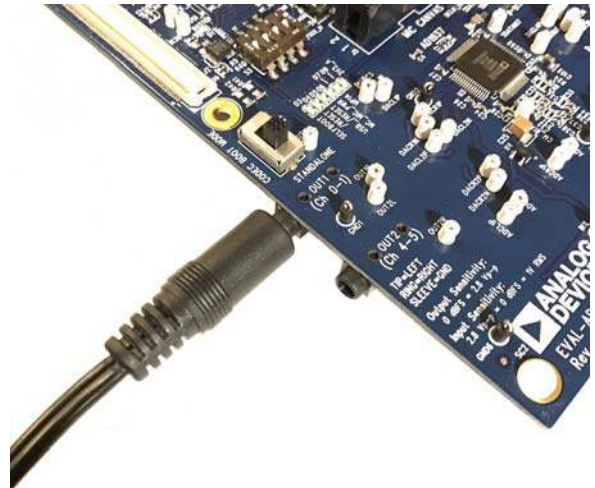
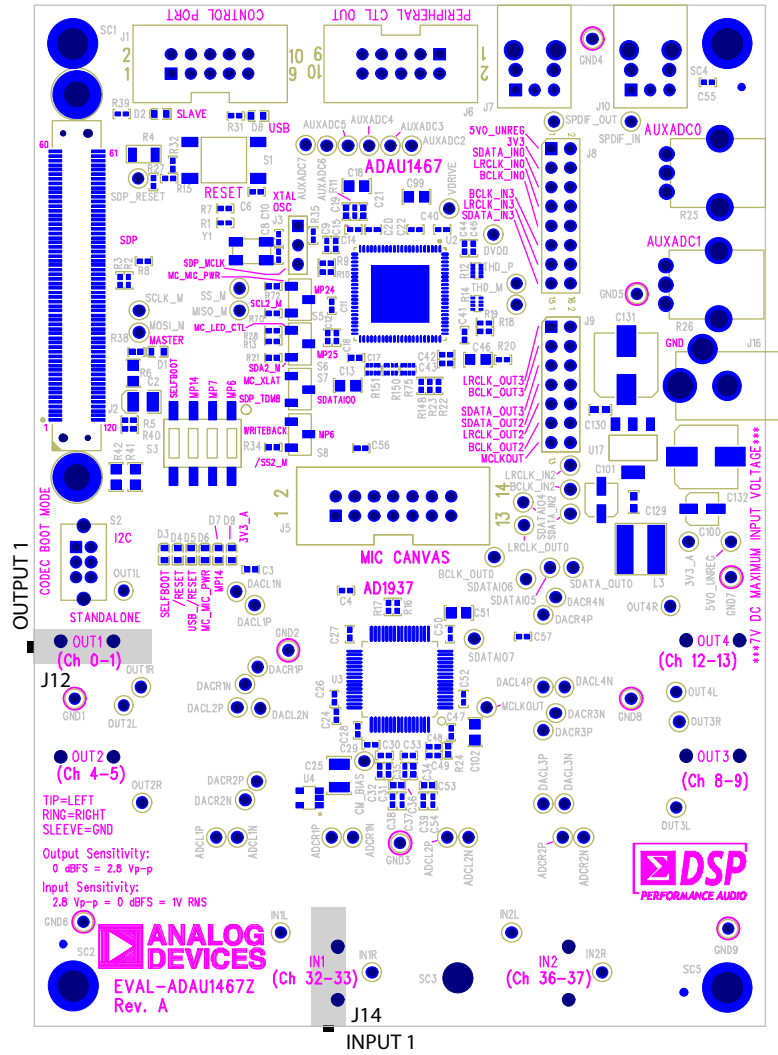
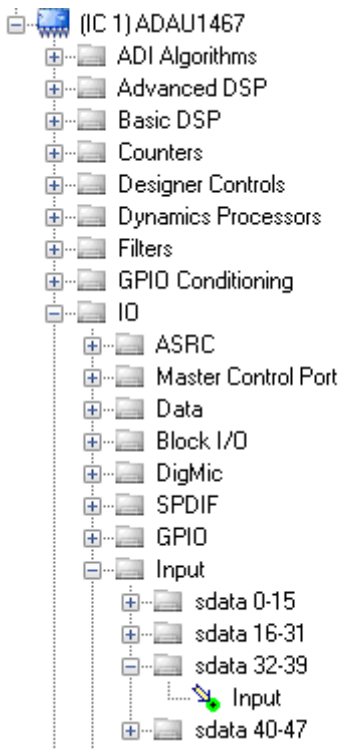
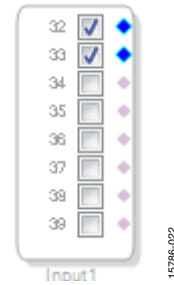

Figure 13. Analog Stereo Output Connection
Figure 14. Location of Stereo Output OUT1 (J12) and Stereo Input IN1 (J14)
Figure 21. Input Block Selection
Figure 22. Input Block
Figure 12 shows the input source connection. Figure 13 shows the output connection. Figure 14 shows the location of the connectors on the board.
- a. To add an **Input** block, from the (IC1) ADAU1467 > IO > Input > sdata 32-39 folder, click **Input** (see Figure 21) and drag it into the project space to the right of the toolbox (see Figure 22). By default, Channel 0 and Channel 1 are selected. This configuration matches the analog audio source hardware connections shown in Figure 12 and Figure 13; therefore, no modifications are required.